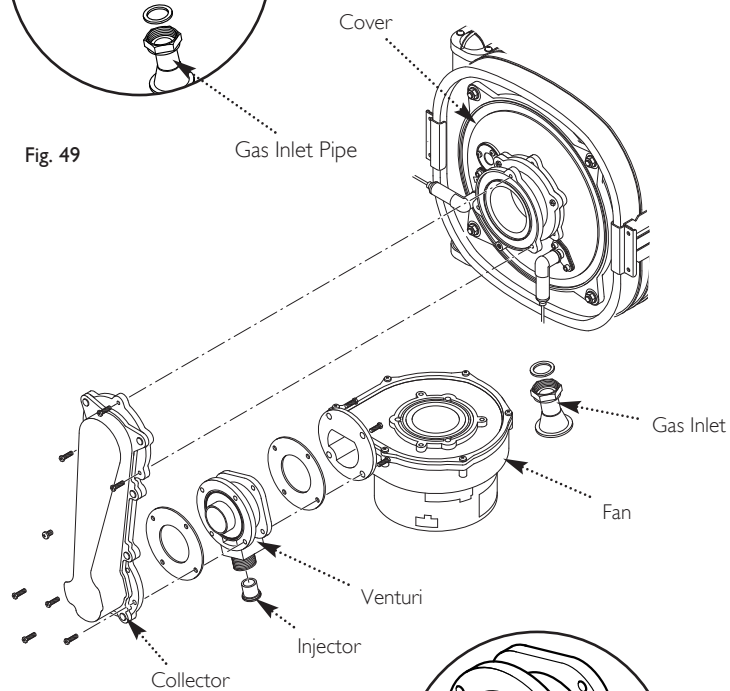

Fig. 48
### 13.4 Fan (Fig. 48)
1. Undo the nut on the gas inlet pipe to the venturi (Fig. 48) and pull the sensing pipe off the fan.
### 13.6 Injector (Fig. 48)